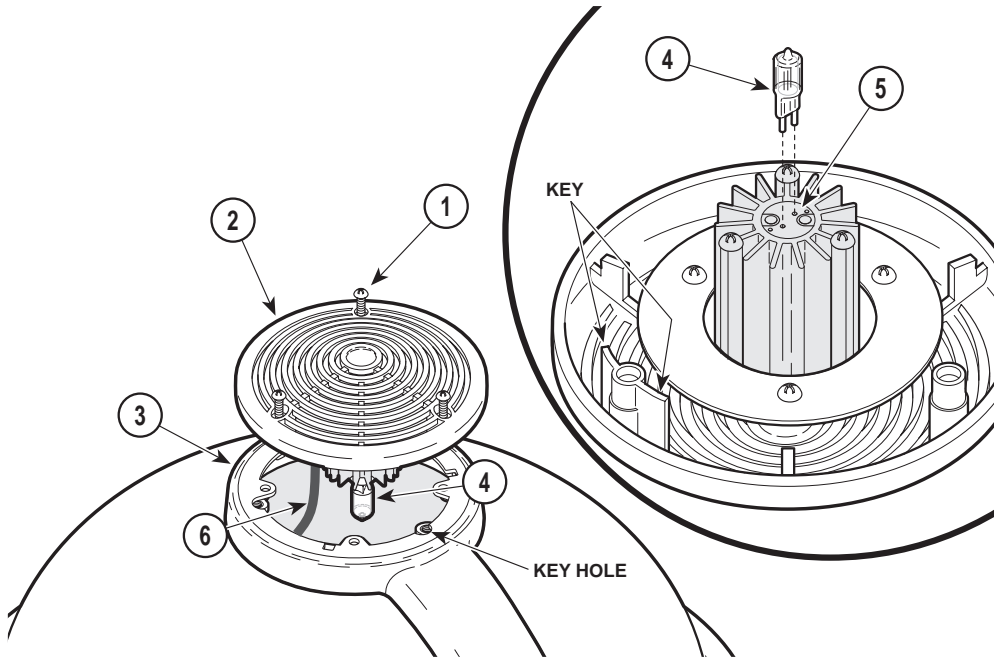

FIGURE 4. BULB REPLACEMENT
2. Loosen three captive screws (1, Figure 4) and separate top cap (2) from support arm pivot (3).
3. Allow the bulb (4) to cool (usually for several minutes). Grasp the bulb (4) and pull the bulb from bulb socket (5). Discard the old bulb while taking care not to break the glass capsule of the bulb.